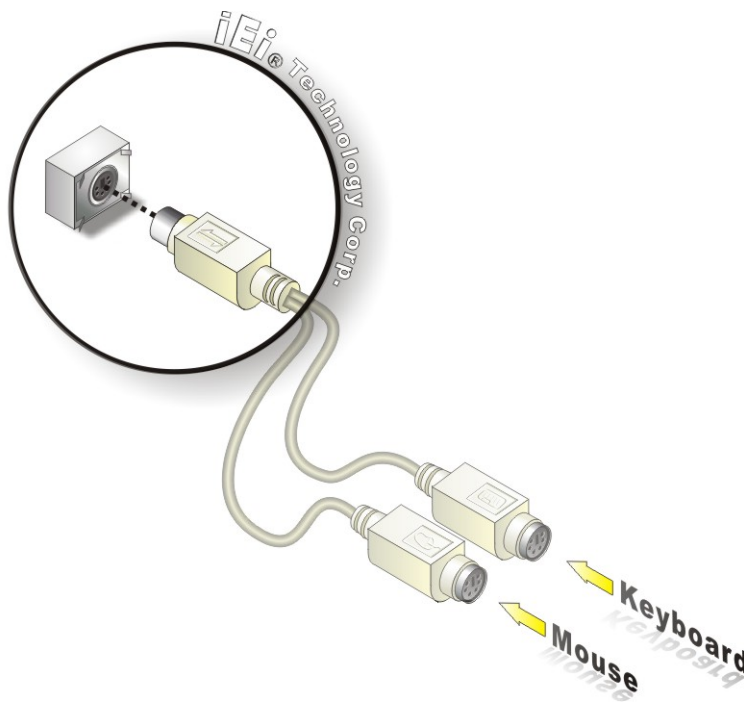

Figure 4-16: PS/2 Keyboard/Mouse Connector
Step 2: Insert the keyboard/mouse connector. Insert the PS/2 connector on the end of the PS/2 y-cable into the external PS/2 connector. See Figure 4-16.